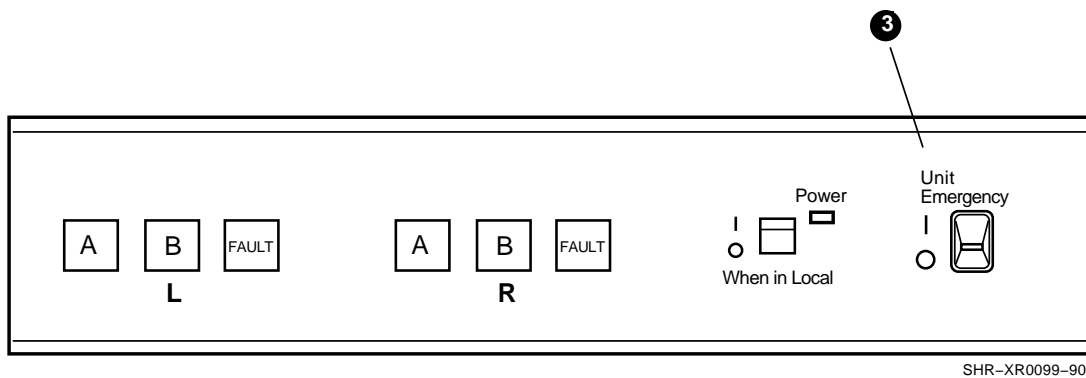

Figure 2-4 Unit Emergency Power Switch
The Unit Emergency Power switch ③ removes power in emergencies (Figure 2-4). Emergencies include smoke coming from the tape control unit or water getting into the tape control unit or any of the drives. When this switch is moved to the Power Off position, power is immediately removed from the subsystem.